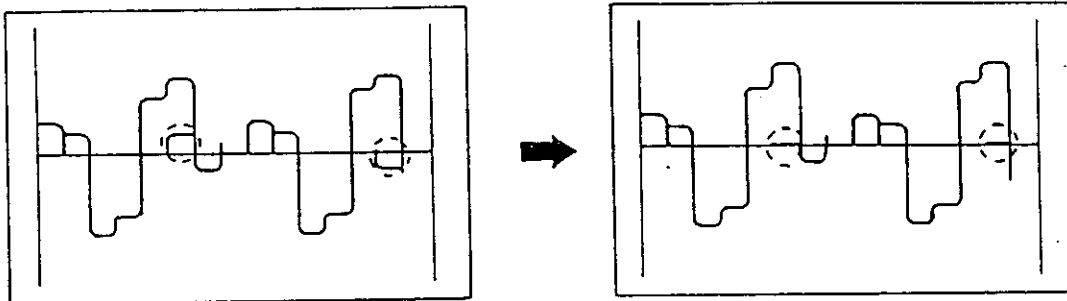

Fig. 3
3. Adjust 'A' to 0 level with VR306 as shown in Fig. 3.